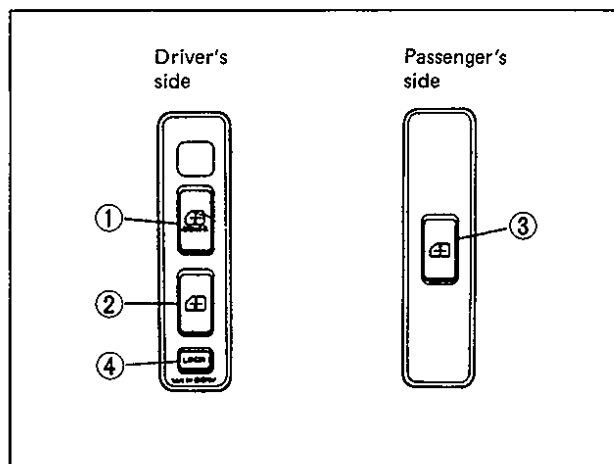
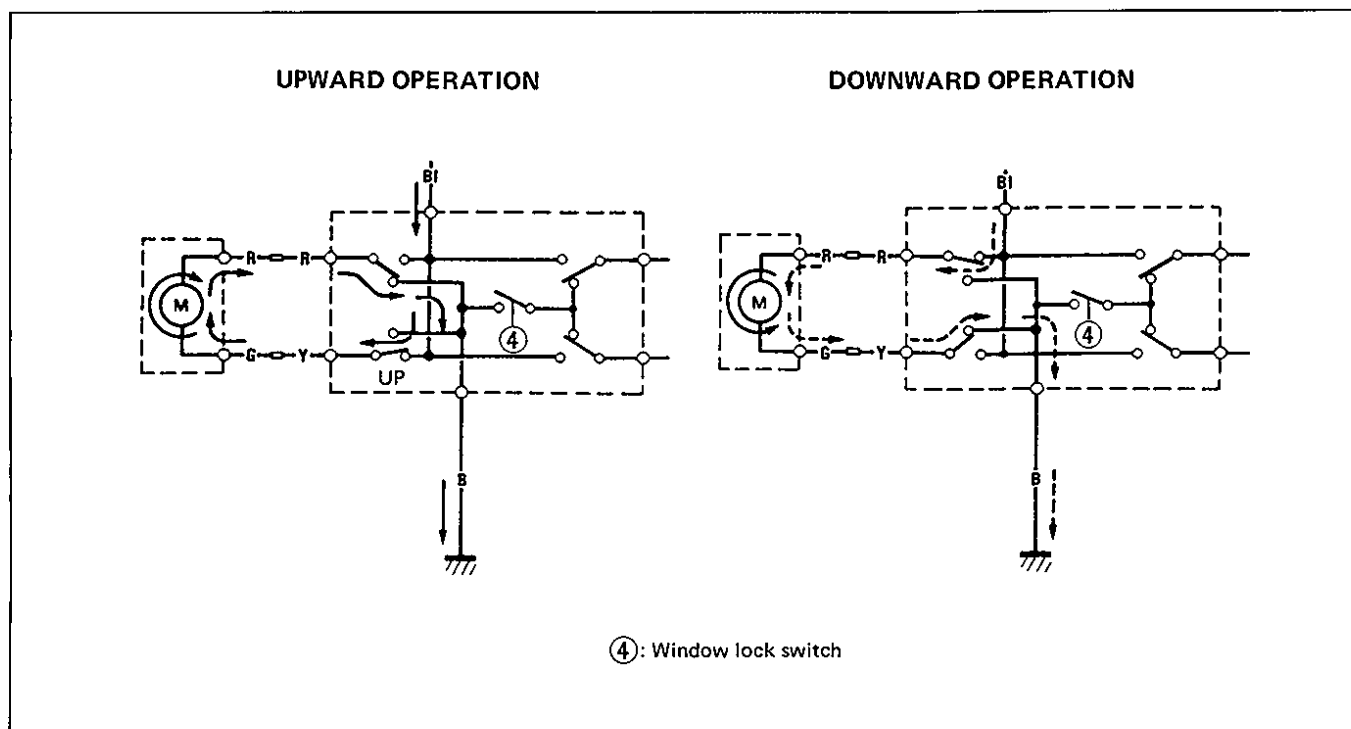

Fig. 8-70 Switch
Fig. 8-72 Rotation Direction of Motor and Circuit
As the power window switch is operated in one way or the other, an electric current flows to the window regulator motor to run it. Whether the motor turns clockwise or counterclockwise is determined by the direction in which the electric current flows. Thus, the window moves up or down depending on the rotation direction of the motor. The solid arrow line (—→) in Fig. 8-72 shows the electric current flow when the driver's side switch (① in Fig. 8-70) of the power window main switch is operated for upward movement and the broken arrow line (- - -→) for downward movement.